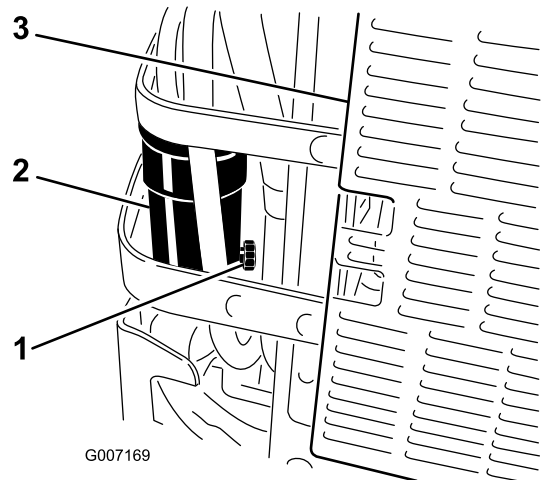

Figure 58
6. Open the drain valve on the water separator approximately 1 turn to allow water and other contaminants to drain (Figure 58).
7. Close the drain valve when only diesel fuel comes out (Figure 58).